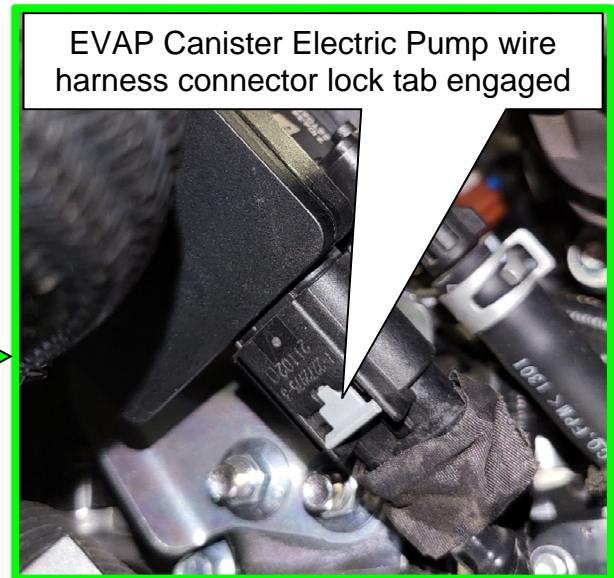

Figure 2
2. Disconnect the EVAP Canister Electric Pump wire harness connector (Figure 2).
3. Re-connect the EVAP Canister Electric Pump wire harness connector and then verify the wire harness connector is fully seated, connected, and the wire harness connector lock tab is engaged (Figure 2).